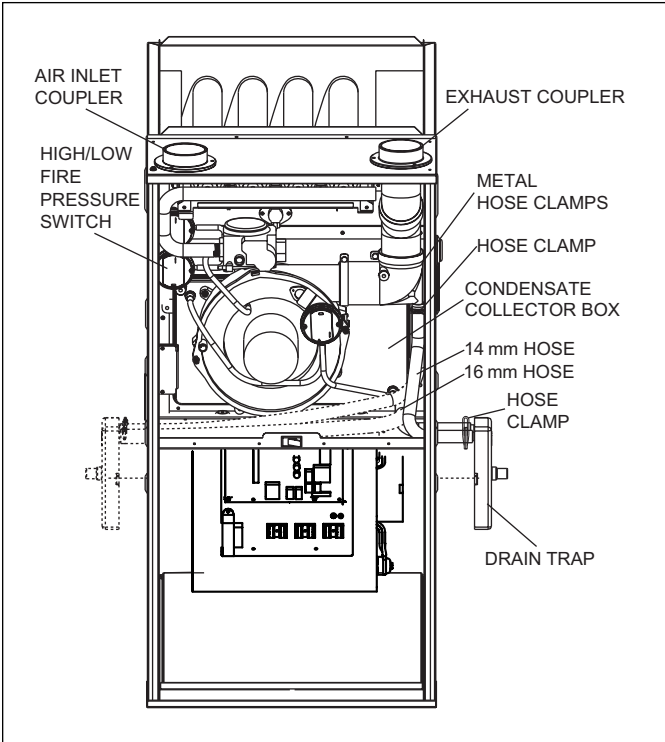

Figure 15 Upflow Installation, Top Venting
- 5. Connect  $\Phi$ 16 mm hose between condensate collector box and drain trap and connect  $\Phi$ 14 mm hose between inducer drain port and drain trap. (see Fig. 15).